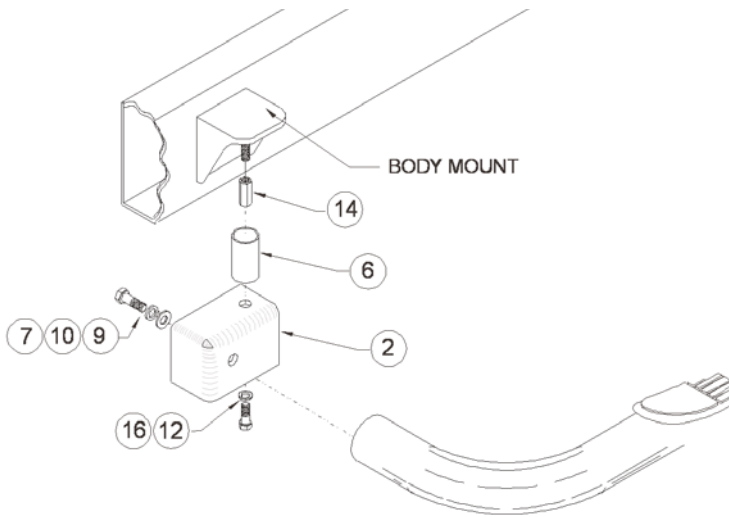

FIGURE 1 - DRIVER-FRONT
2. Screw 7/16-14 x 1.75" Coupling nut onto front body mount and torque to 40 Ft/lbs. Attach front bracket to body mount as shown. **NOTE:** Do not tighten at this time. Attach short end of step bar to front bracket. **SEE FIGURE 1, 3**